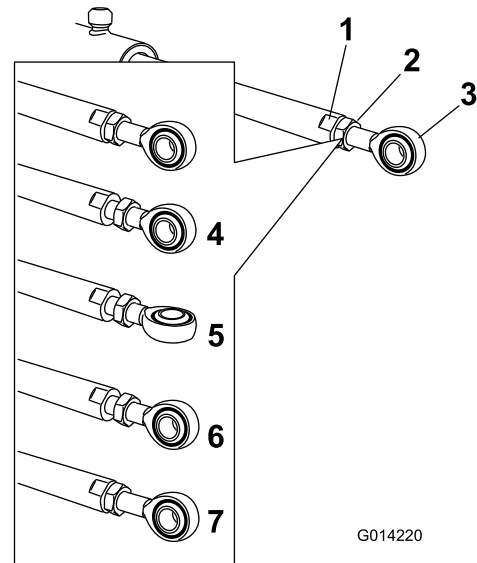

Figure 81
5. Use a wrench on the flat sides of the actuator rod to immobilize it then loosen the jam nut to allow for the eyelet rod to be manipulated (Figure 81).
6. Turn the eyelet rod in the actuator rod to shorten or lengthen the extended actuator to the desired position (Figure 81).